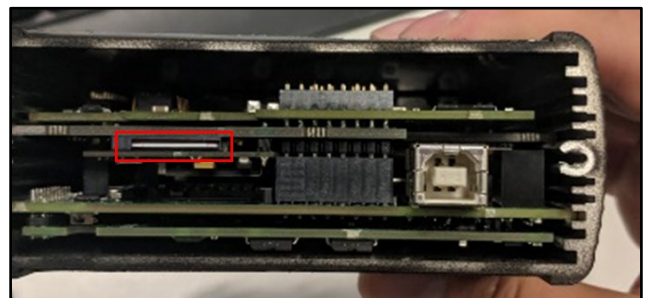

Figure 9
5. Put the SIM card in the SIM card slot. Push it in until you hear a click and the SIM card is flush with the housing (refer to Figure 9).